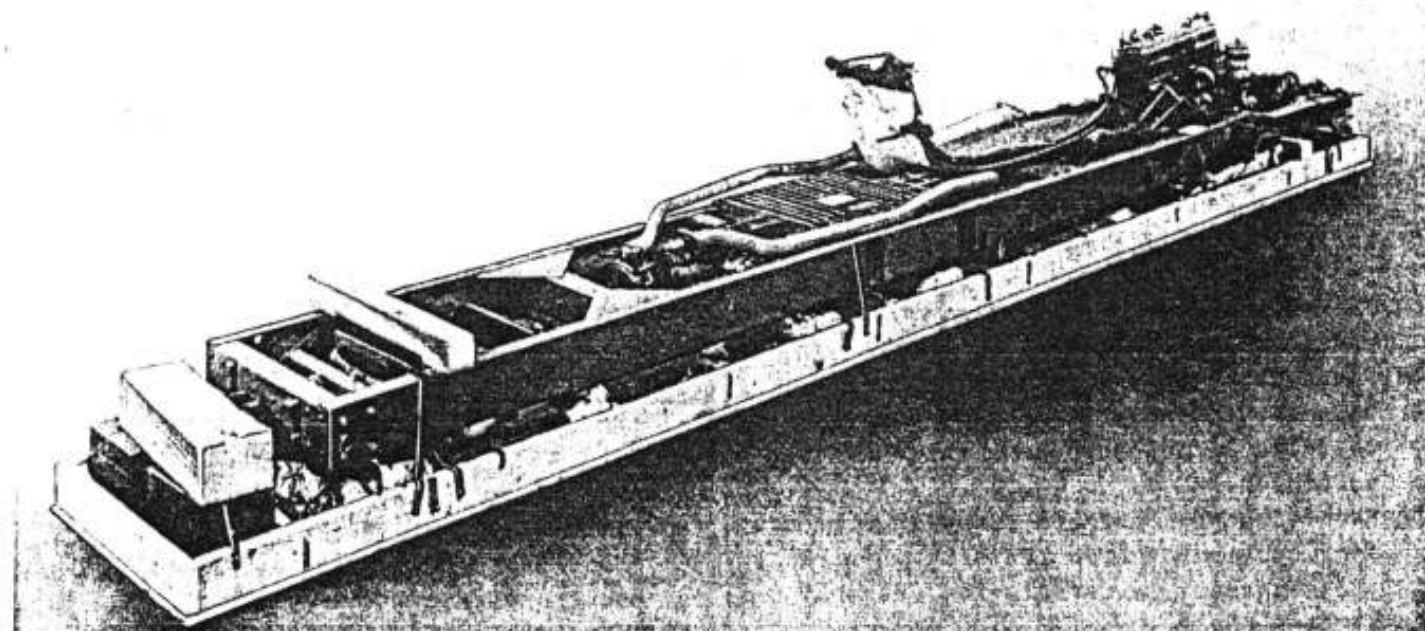

Fig. 3 Bottom Chassis in Chassis Box.
- (f) Remove bottom stripped chassis and remaining loose parts from box (Fig. 3). Place this chassis in available assembly or storage space.